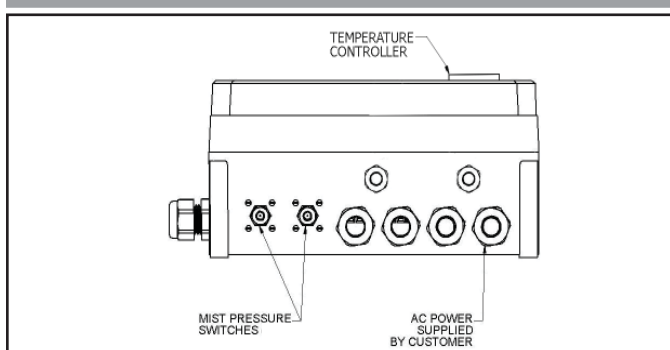

Figure 8 Power cable installation
3. Unscrew the four cover screws and carefully open the Control Box (32).
4. Loosen the cable gland reserved for the power cable as shown in Figure 8 and feed the power cable thru the cable gland. The spare glands shown in the figure can also be used.